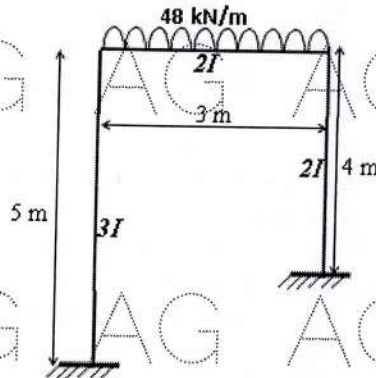

Figure 1
2. Using moment distribution method, analyse the frame shown in figure 1 and draw the bending moment diagram and Elastic curve. [15]